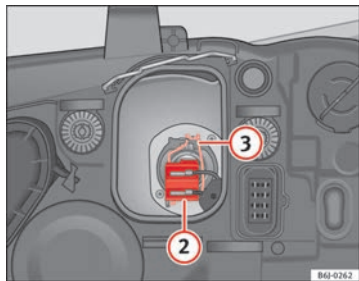

Fig. 153 Dipped beam headlights
- Remove the connector ⇒ fig. 153 ② from the bulb.
- Unclip the retainer spring ⇒ fig. 153 ③ pressing inwards to the right.